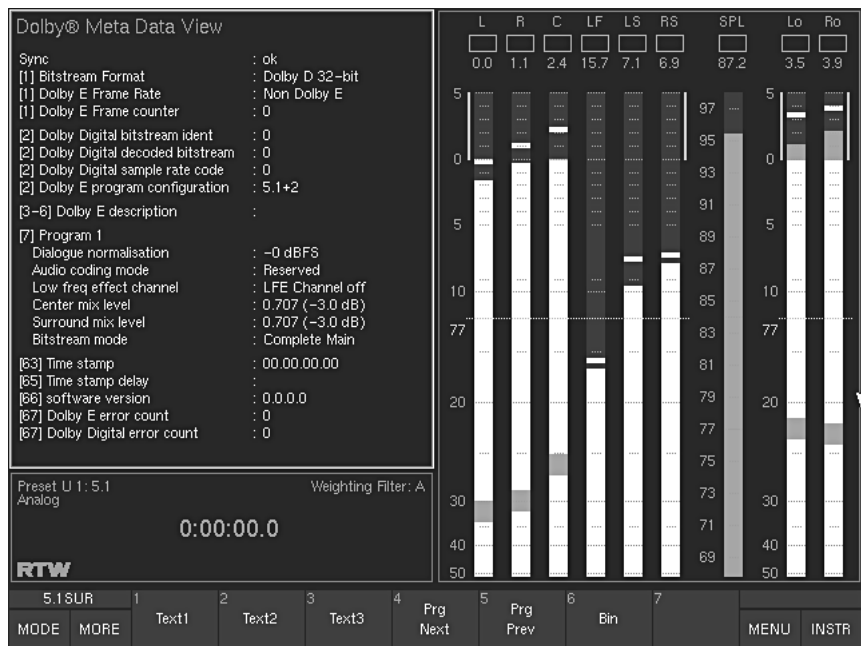

Fig. 5-44: The functions of the DOLBY® META DATA instrument displayed in the Toolbar
(Button/key 1, see Fig. 5-44)
(Button/key 2, see Fig. 5-44)
(Button/key 3, see Fig. 5-44)
(Button/key 4, see Fig. 5-44)
(Button/key 5, see Fig. 5-44)
(Button/key 6, see Fig. 5-44)